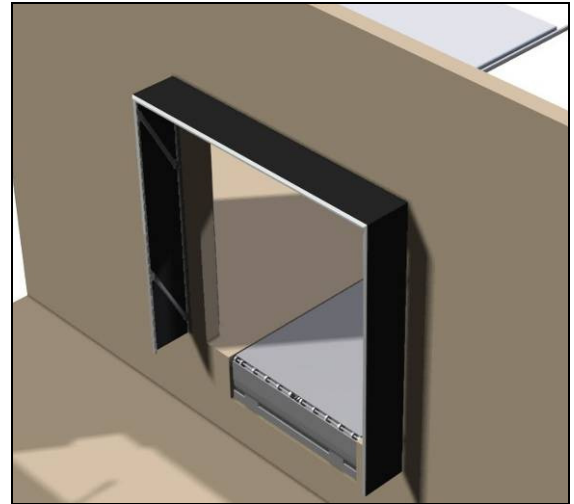

Fig. 5
Step 3: Place the side canvas in the vertical guides of the dock shelter. Both canvas must be aligned and symmetrical (see Fig. 5).